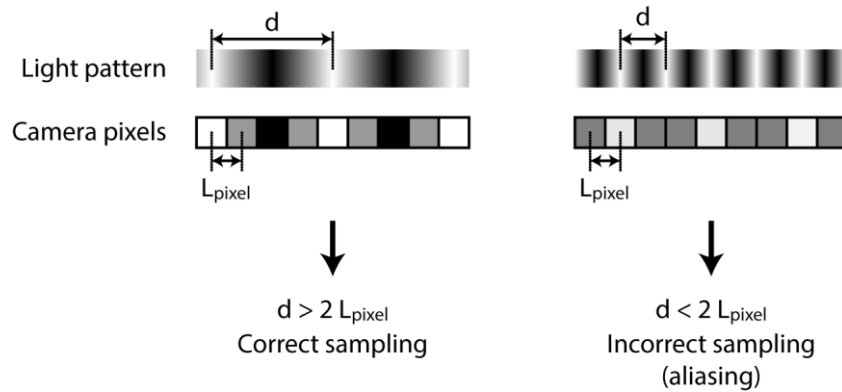

Figure 3: Sampling of a periodic fringe pattern with a pixelated device
- d) A camera with a pixel size of L_{pixel} can correctly resolve a pattern only if its spatial period d is larger than two pixels: $d > 2 L_{\text{pixel}}$. This is the Nyquist-Shannon sampling criterion. It is schematically illustrated in Figure 3. Under this condition, what is the maximum allowable angle θ_x of the off-axis reference beam? Calculate this angle in degrees for a wavelength of 532nm and a camera with 8μm pixels.